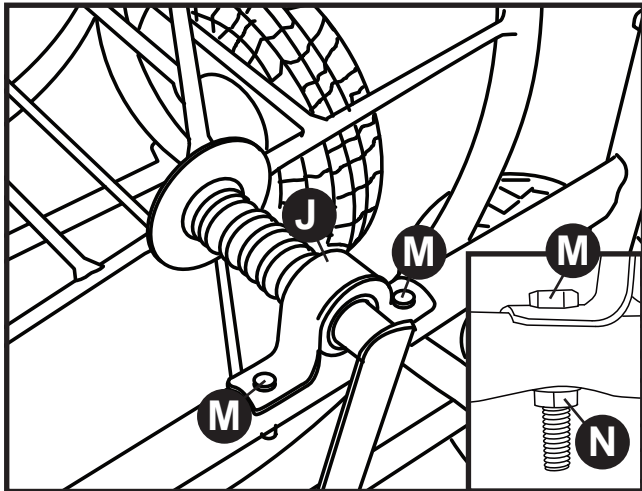

FIGURE 7
7. Using the 1.75" bolts (M), insert them through the U-bushing (J) and through the holes on the handle side of the frame. Attach lock nuts (N). **Figure 7**